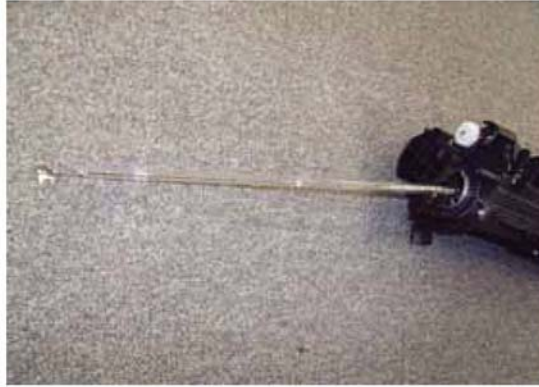

Figure 2
2. Remove the fusing lamp from the fuser, Figure 2.